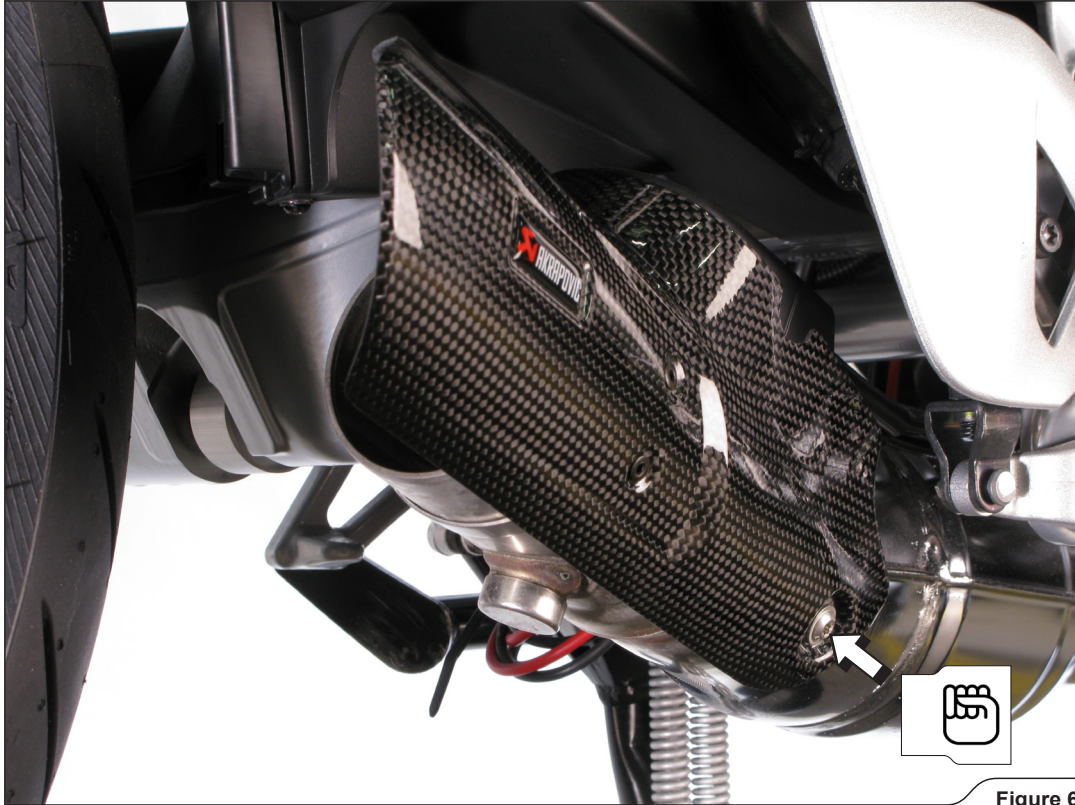

Figure 6
- 3. Slide the heat shield onto the stock collector and **hand** tighten the clamp and marked bolt (**Figure 6**).